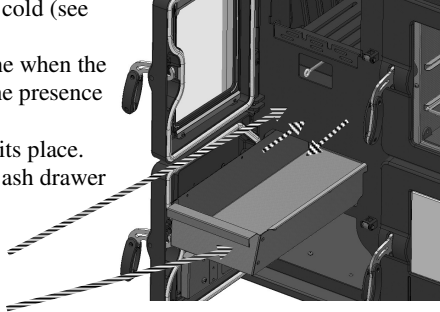

Fig.2
- The ash drawer should be emptied from ash using the thermic glove, when the appliance is cold (see fig. 2).